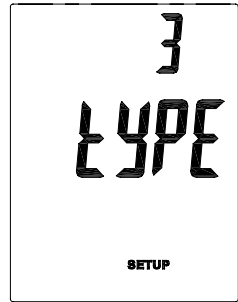

Fig. 10
- 3 = Display pressure, air velocity, and airflow value (Fig. 10)